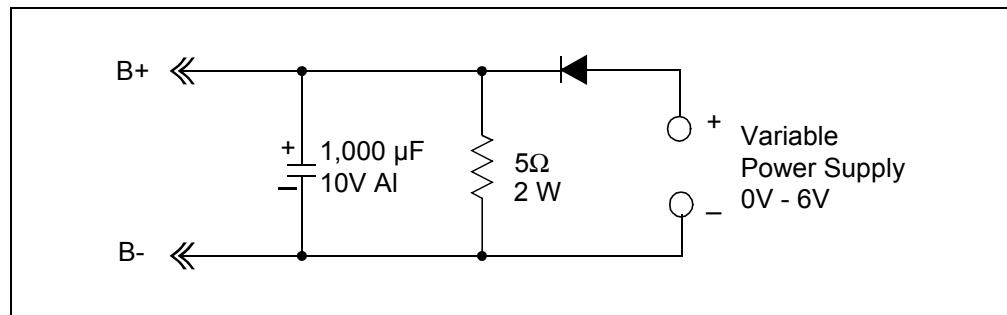

FIGURE 2-2: Simulated Battery Load.
2. For the MCP73831-2AC board, the charge management controller will only provide 10% of the programmed fast charge current if the battery terminal voltage (V_{BAT}) is less than 2.8V with respect to V_{SS}. Using a purely resistive load will not work for preconditioning and fast charge currents. The best way to evaluate the charge management circuit is to use a single-cell Li-Ion battery pack, or the recommended simulated battery load. Refer to Figure 2-2.